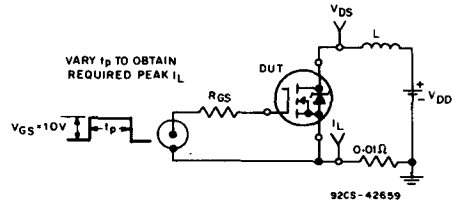

Fig. 15 – Unclamped Energy Test Circuit
④ V_{DD} = 50V, starting T_J = 25°C, L = 9.1 mH, R_{GS} = 50Ω, I_{peak} = 10A. See figures 15, 16.